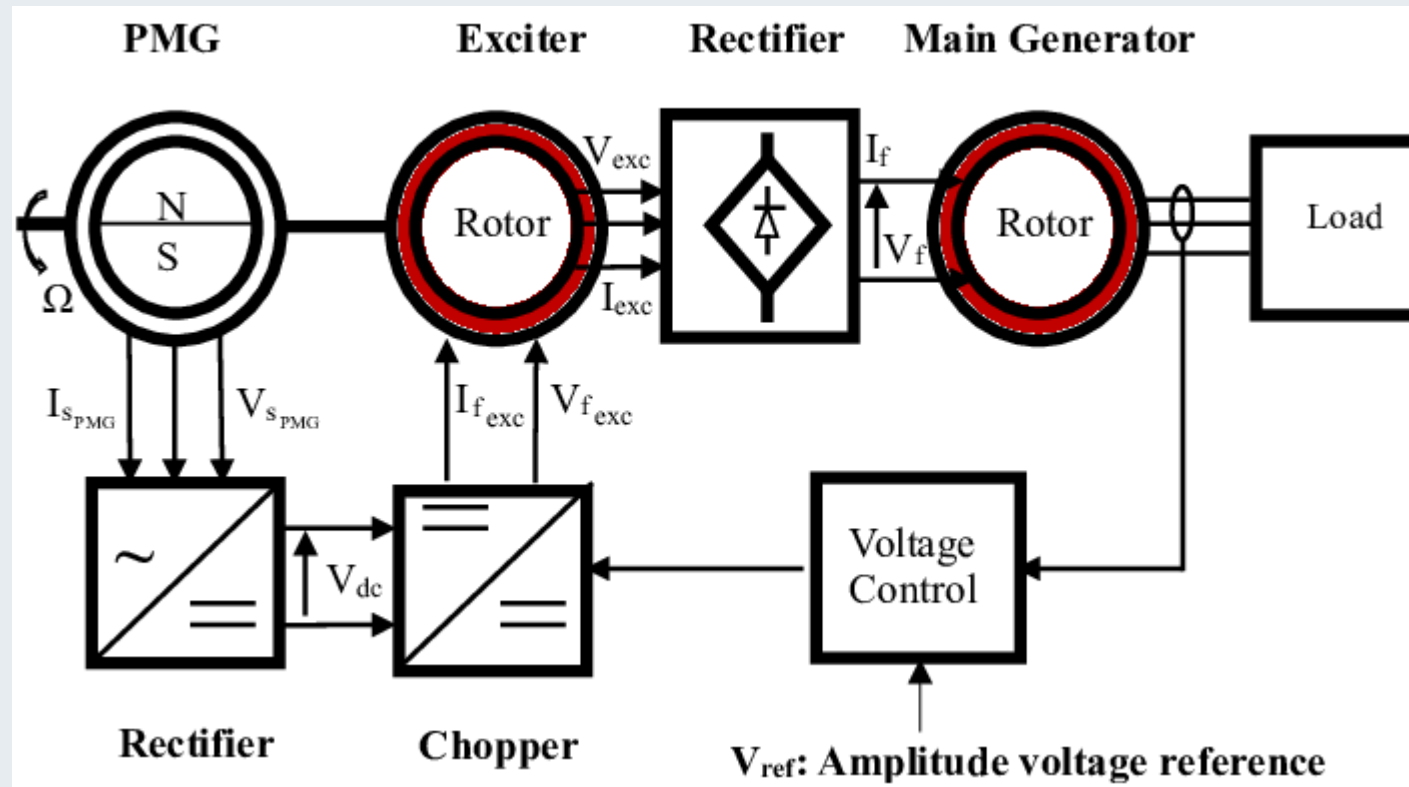

Figure 6. Brushless excitation synchronous generator.
- Figure 6 depicts this type of brushless AC excitation system.